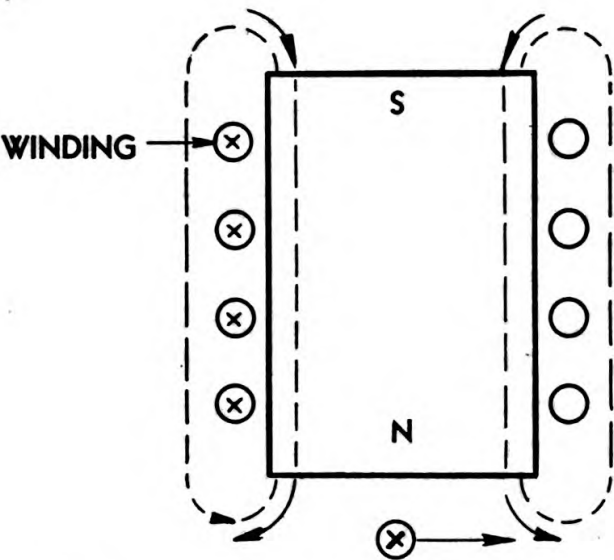

FIG. 14. GENERATOR THEORY—ELECTROMAGNET
d. In practice, an electromagnet (Fig. 14) is used instead of a permanent magnet, for a permanent magnet tends to lose its strength over a period of time. Also, the strength of an electromagnet can be controlled by the number of turns of wire wound on it, and by the amount of current (amperes) supplied through this wire.